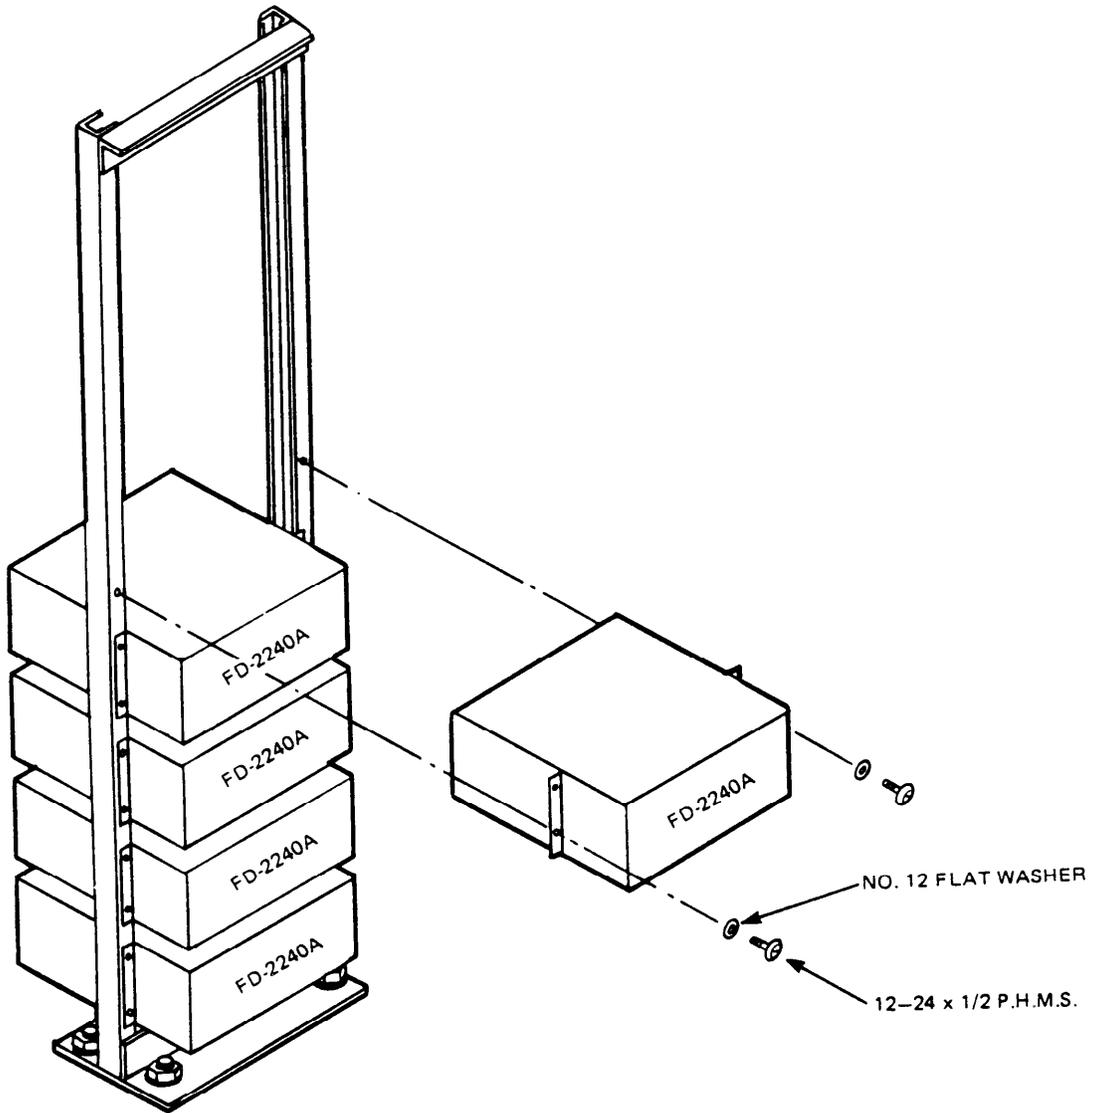

Figure 4-1 Shelf Mounting
4.01 Position a bottom shelf in the lowest rack position. Align shelf and rack holes and install four flat washers and pan-head machine screws (PHMS). Refer to Figure 4-1. Stack and install remaining shelves.